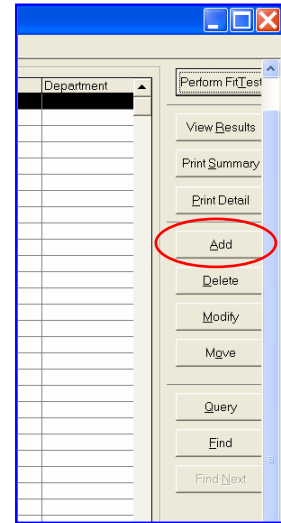

Fig. 4 – Adding a Subject for Testing
14. Click “Add” button on the right center of the computer window. (Fig. 4)